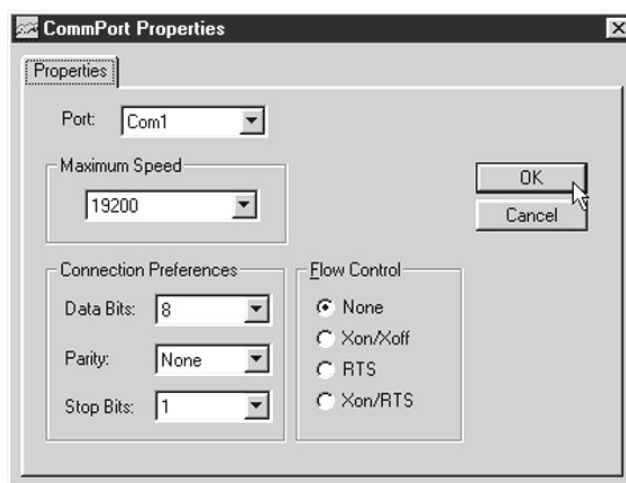

Figure C-1.
1. Go to the Options Group menu (42) and select **D-Link** in the communication options.
3. Open the D-Link utility. If a Communication Failed dialogue opens, click **OK**. Make necessary adjustments on the CommPort Properties screen (Figure C-1), and click **OK**.